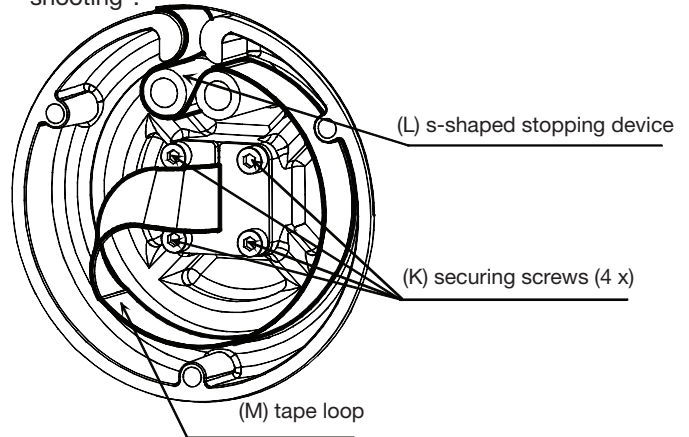

Figure 10-7
- Unscrew with the 2.5 Allen key the 4 screws (K) of the washer holder, as shown on Figure 10-7.
- Make a loop (M) and a S-shape (L) with the tape as shown on Figure 10-7.
- Secure the gaskets and the washers mounted on the tape in the axle core with the washer holder and its 4 screws (K) as shown on Figure 10-7.